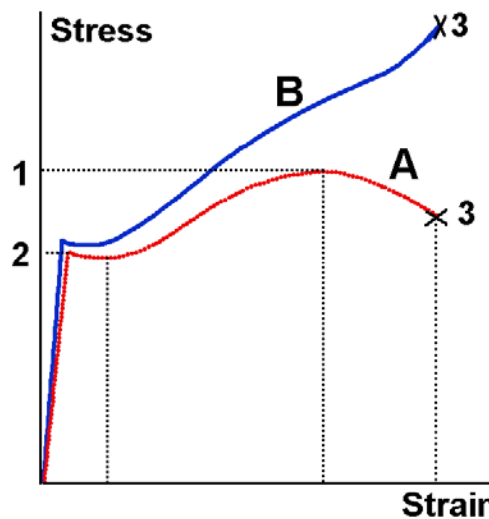

Fig.5. Some experimental stress-strain curves.
**Ultimate tensile strength** - The maximum stress a material can withstand. It is the maximum stress on the stress-strain curve (see Fig.5, point 1)
**Tensile yield strength** - The stress at which material strain changes from elastic to plastic deformation (see Fig.5, point 2).
**Tensile Break strength** - The stress coordinate on the stress-strain curve at the point of rupture (see Fig.5, points 3).